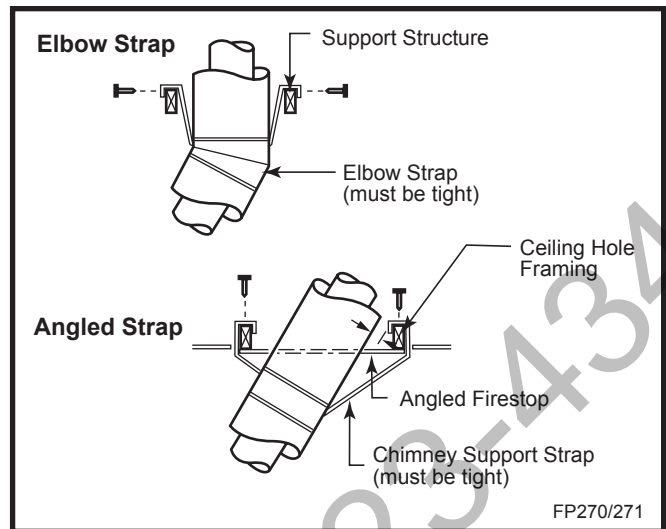

Fig. 33 Attach straps to a structural framing member.
- SKCS8 must be used to support offsets. (Fig. 33) This application will require that you first determine the roof pitch and use the appropriate starter kit. (Refer to Venting Components List)
7. Install roof support (Fig. 33) and roof flashing making sure upper flange of flashing is below the shingles.